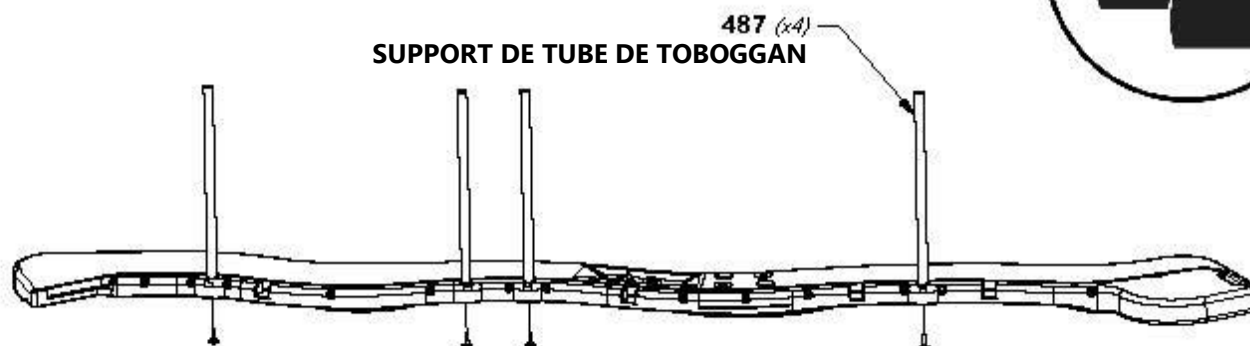

FIGURE 1
INSÉREZ LES (4) TUBES DE SUPPORT DE TOBOGGAN DANS LEURS EMPLACEMENTS DE RÉFÉRENCE RESPECTIFS (FIGURE 1).